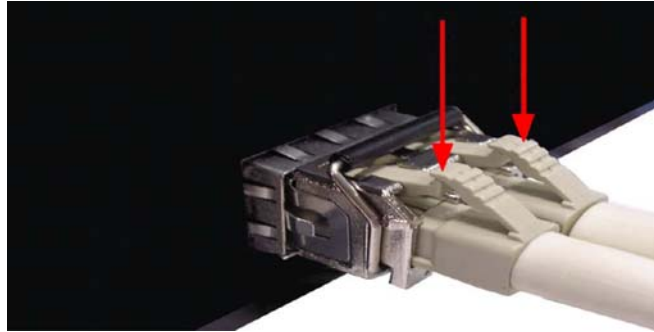

Figure 10. Remove LC Connector
1. Press the upper side of the LC connector from the transceiver and pull it out to release as shown in figure 10 on page 19.